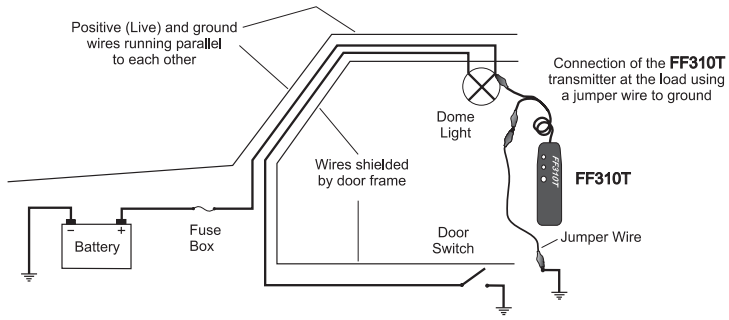

Fig. 9 - Simplified dome light circuit hook up for wire tracing
- The spreading the circuit is achieved by connecting a jumper wire between the live wire (preferably at a termination point in the circuit such as a light bulb socket, switch, etc.), and a ground point somewhere else in the vehicle (see Fig. 9). This last method should be used only as “last resource” and with the FF310R set to low sensitivity, as it could make the pinpointing of the precise location more difficult due to the much increased range.